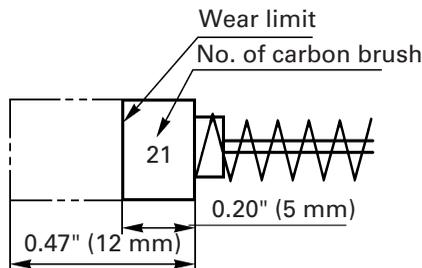

Fig. 6
4. Inspecting the carbon brushes (Fig. 6)
**NOTE:** Use HITACHI carbon brush No.21 indicated in Fig. 6.